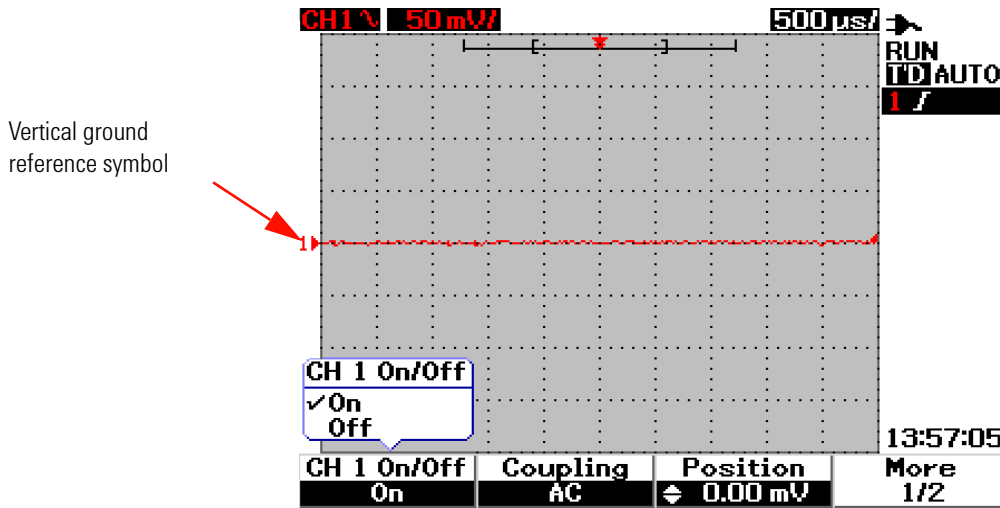

Figure 3-2 Select On or Off to enable or disable the waveform display
- 3 The submenu for both channels are similar. Figure 3-2 shows the generic submenu for channel 1. To enable waveform display for channel 1, press F1 to display the pull-up menu.